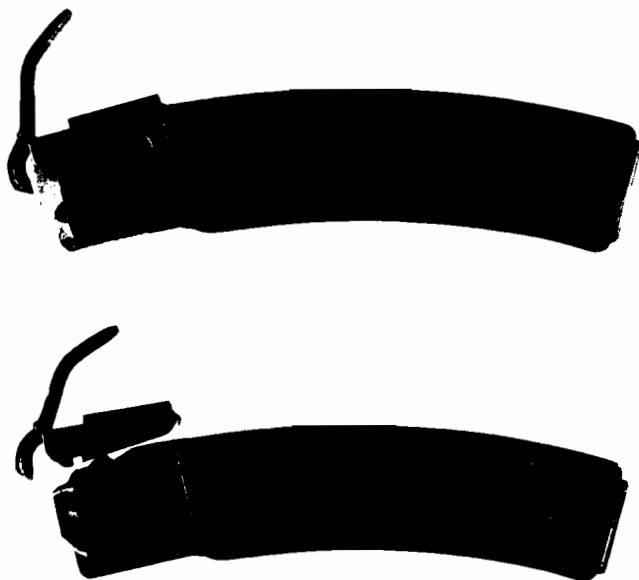

Figure 16. Magazine loader for PPSH-41 submachinegun.
- (1) Sling.
- (2) Two-section T-handled cleaning rod carried in the butt.
- (3) T-shaped folding screwdriver, also carried in the butt.
- (4) T-shaped wrench for adjusting the front sight.
- (5) Magazine filler for 35-round magazines (fig. 16).
- (6) Standard Soviet-pattern 2-compartment oil-and-cleaning-solvent container.
- (7) Magazine carriers, appropriate to the type of magazine used.